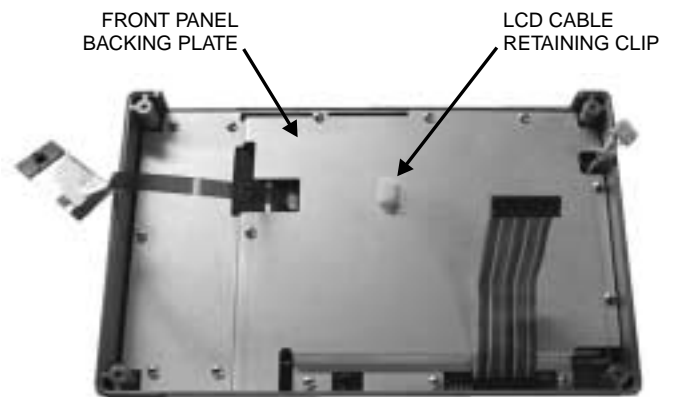

Figure 14. *Front Panel Backing Plate*
4. Release the LCD display cable from the retaining clip on the front panel backing plate (Figure 14).